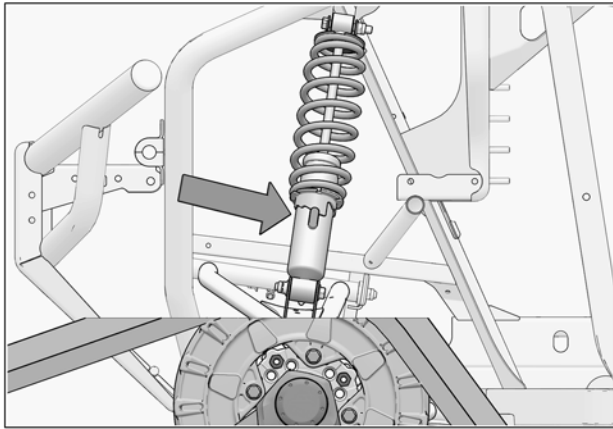

Fig. 27
1. Verify the suspension settings. If the shock absorbers are adjustable, adjust them to the stiffest setting to allow for maximum clearance between the System and the vehicle's fenders. See Fig. 27